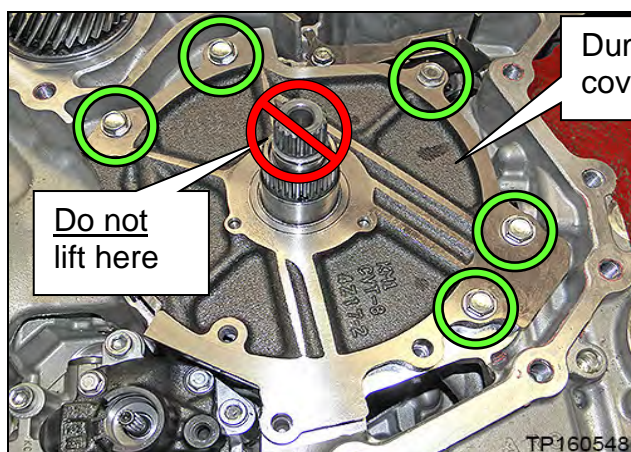

Figure 19B
13. Remove the five (5) dummy cover bolts, and then remove the dummy cover. See Figure 19B.
- Lift the dummy cover from sides **ONLY**. Do **NOT** lift from the input shaft (Figure 19B); this can lift the clutch pack out.